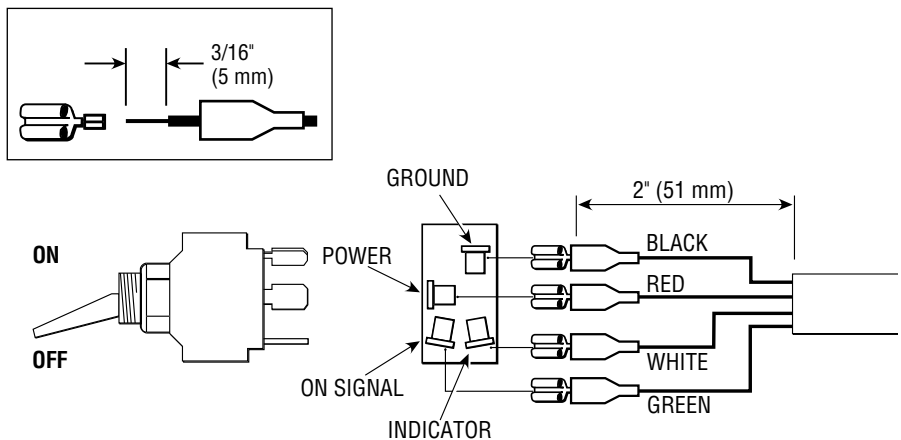

Figure 3-22 ON/OFF Switch Connections
6. Connect the terminals to the switch as shown. (Figure 3-22)